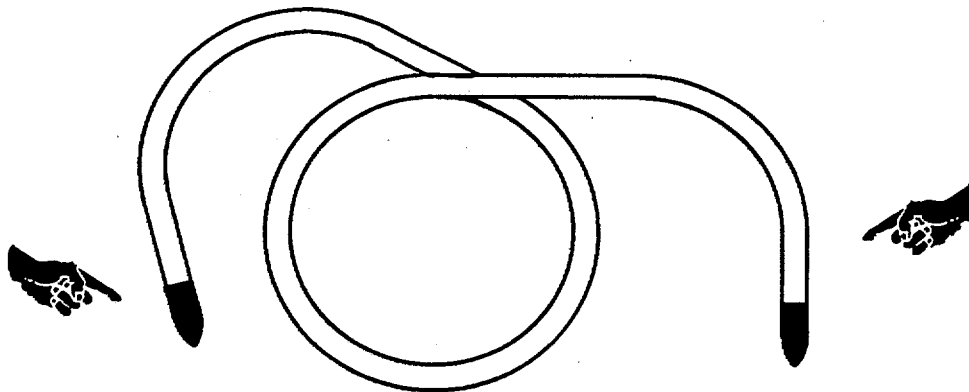

Figure 2-20. Fuel Siphon
- m. Fuel Siphon. The fuel siphon (See Figure 2-20) is used to recover fuel from the aircraft fuel cells when the fuel sumps are inaccessible.